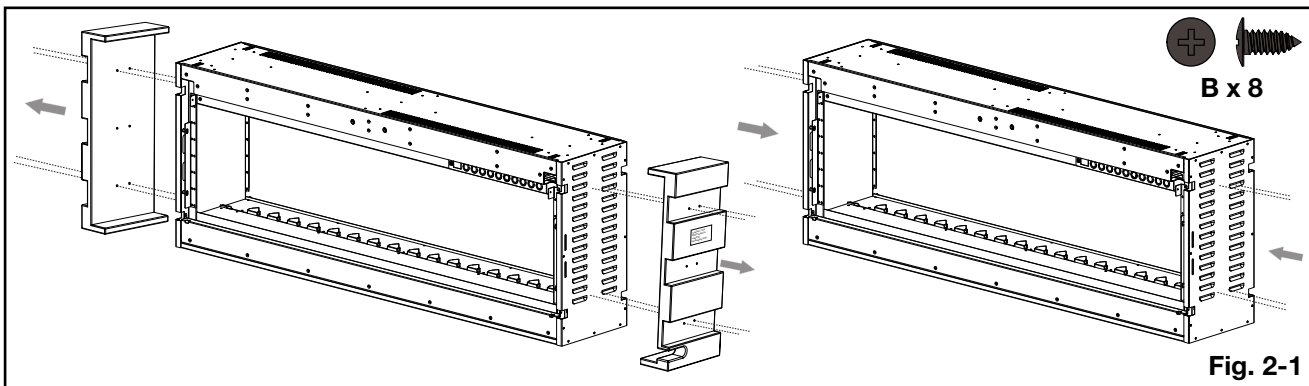

Fig. 2-1
- E. Remove the 2 MDF support ends from the appliance by removing the screws. Discard both MDF boards. Use 4 new screws (supplied) on each side to cover MDF board screw holes (**Fig. 2-1**).